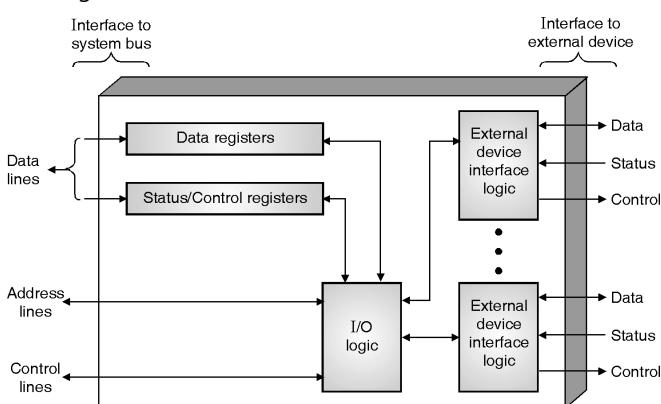

Fig. 11.11.2 : Internal block diagram of an I/O module
- The internal block diagram of I/O module is shown in Fig. 11.11.2.